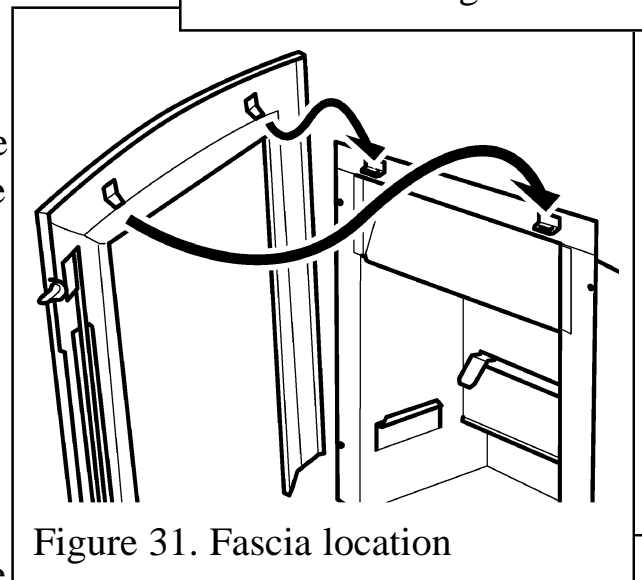

Figure 31. Fascia location
2. Carefully lift the fascia. Do not lift it by the control button. Place the fascia against the fireplace front surface so that the two retaining plates at the back of the fascia are directly above the two upper retaining brackets at the top of the hotbox. Lower the fascia making sure that the retaining plates locate fully into the brackets on the hotbox (See figure 31). If the inlet pipe runs along the front of the fireplace, the bottom of the fascia will have to be swung forwards to clear the pipe while lowering the fascia.